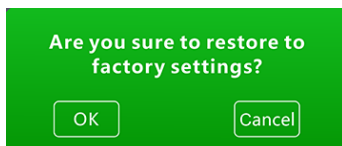

Figure 10
Enter the setting interface, and click the restore factory settings touch button to enter the restore factory settings interface for confirmation. In confirming interface, click “OK”, the interface shown in Figure 10 will pop up. Select "OK" to restore the original factory settings parameters or select "Cancel" to quit restoring factory settings.
5.7.3 In setting interface, touch key “10” Restore Factory Setting key, click “OK” to enter interface shown in Figure 10, and decide whether to restore the factory setting by clicking “OK” or “Cancel” key.